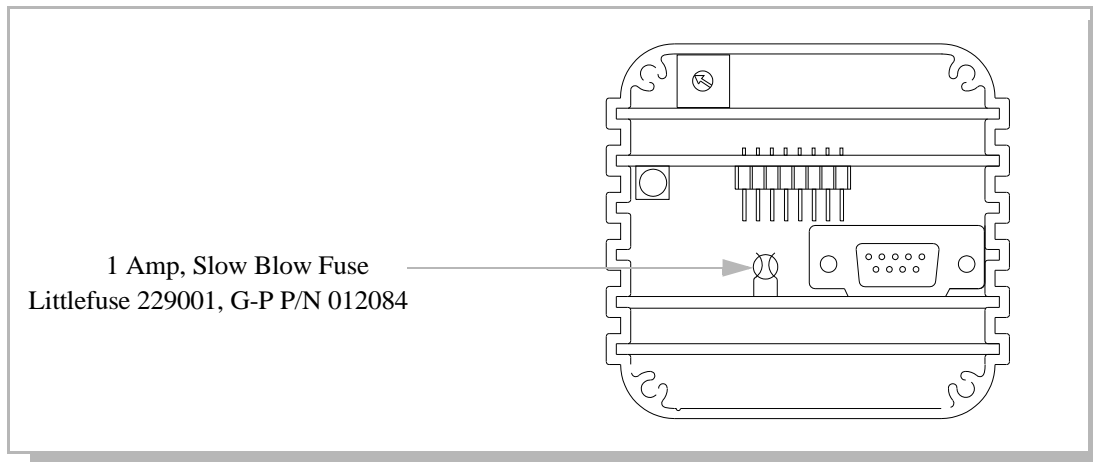

Figure 4-4 Position of 1 Amp, Slow Blow Fuse.
5. Locate the defective fuse as shown in Figure 4-4 and replace it with a new 1 amp, slow blow fuse.